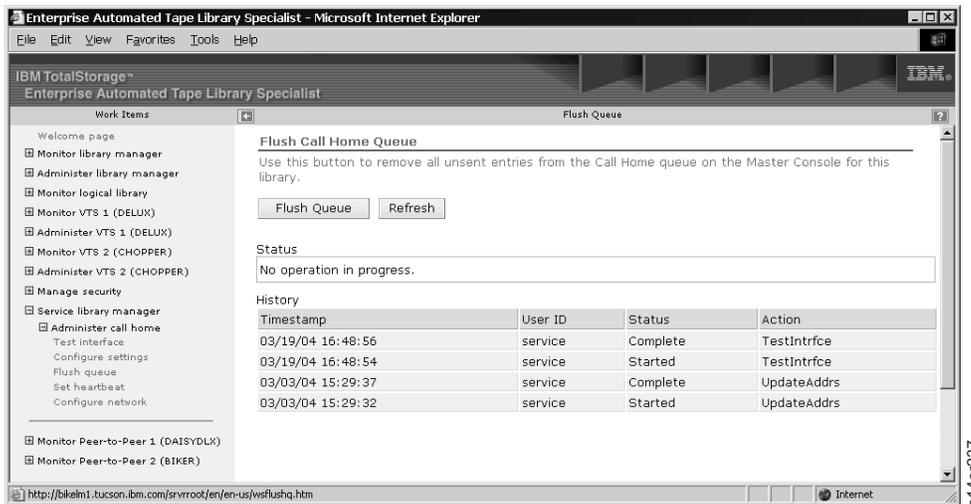

Figure 51. 3494 ATL Web Specialist - Flush Queue
1. From the “Administer call home” list on the Web Specialist screen (Figure 48 on page 38), click **Flush queue** to see Figure 51. If you are prompted for a userid and password, use the default values of **service** for the userid and **service** for the password. These values can be changed by the 3494 ATL system administrator.